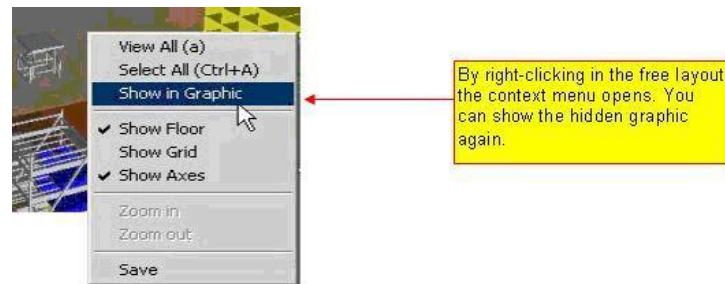

Figure 151: Show in Graphic Context Menu
- 2) It is possible, of course, to show the object again. You can choose from a list of hidden objects, after you have enabled the context menu in the layout. *Please refer to the Figure 151.*